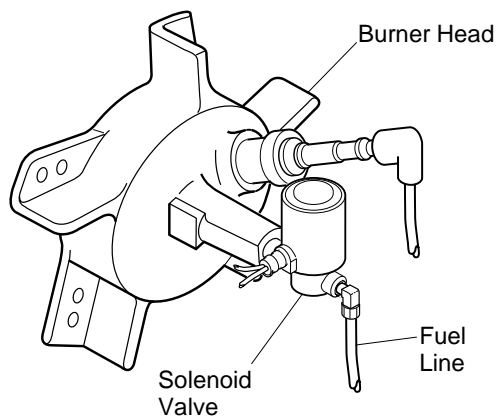
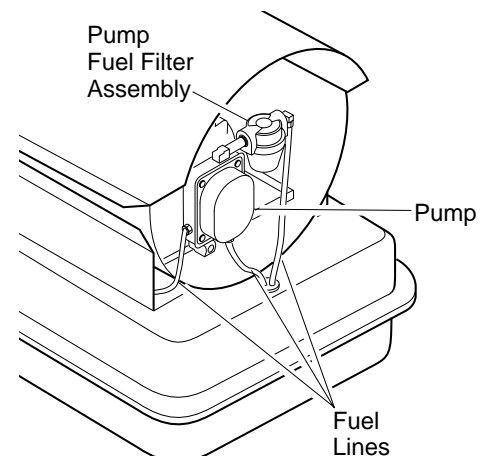

Figure 12 - Fuel Line at Solenoid Valve
Figure 13 - Fuel Lines at Pump and Pump Fuel Filter Assembly
3. Use 7/16" wrench and tighten fuel lines at solenoid valve (see Figure 12), pump, and pump fuel filter assembly (see Figure 13).